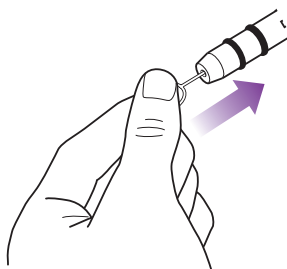

fig. 32
- 3 Use the provided nozzle cleaning tool or a small diameter stiff metal wire, such as a straightened metal paperclip, and carefully insert the end of the wire into the nozzle orifice. See illustration above. (fig. 32)